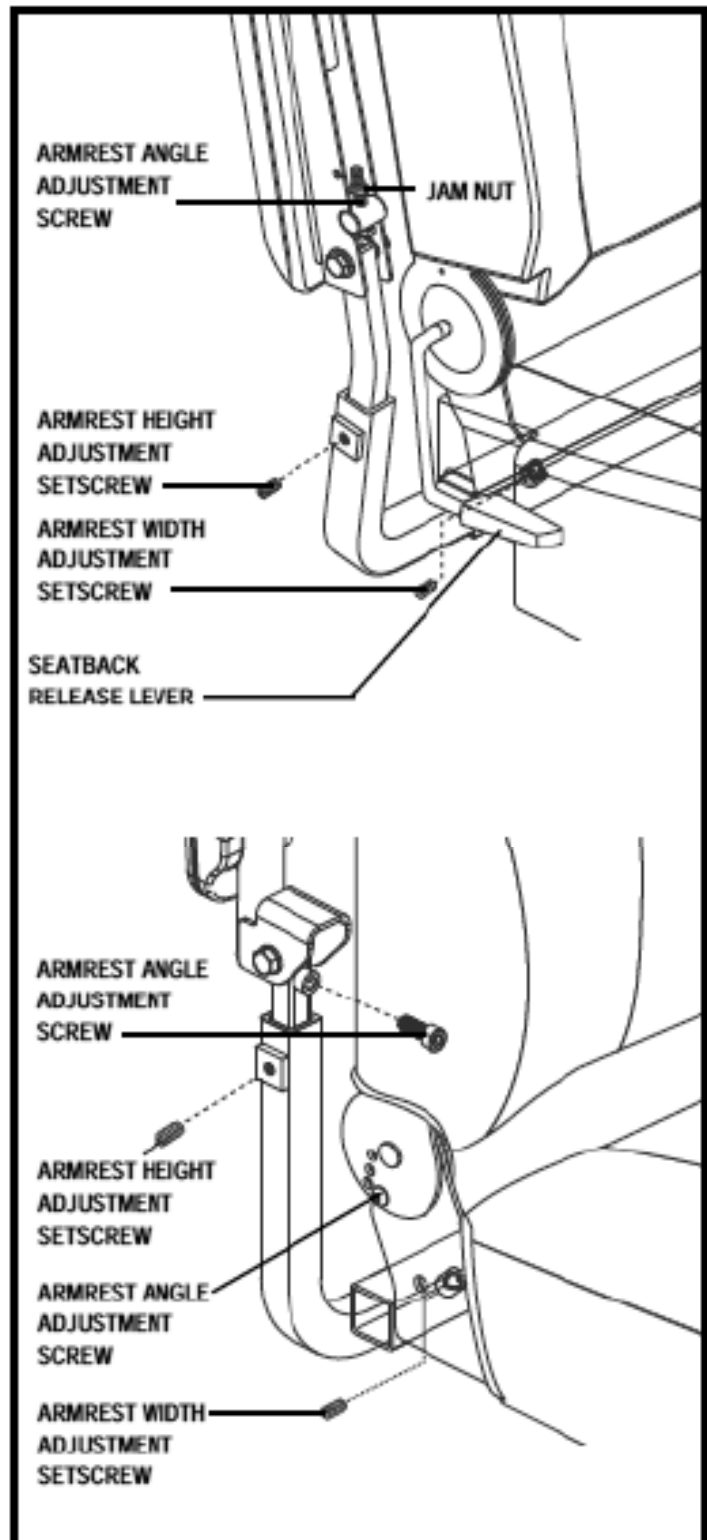

Figure 14. Armrest and Seatback Adjustments
If your power chair is equipped with a manual recline seatback, you can adjust the seatback angle using either hardware or the seatback release lever. See figure 14.
1. Locate the armrest width adjustment setscrew on each side of the armrest receiver bracket. See figure 14.
1. Loosen the setscrew on the armrest. See figure 14.